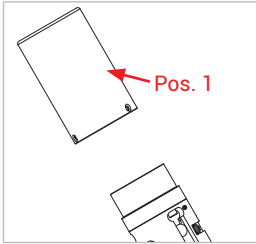

Figure 7
- ▶ Remove the impact protection sleeve (Pos. 1) carefully (Figure 7).